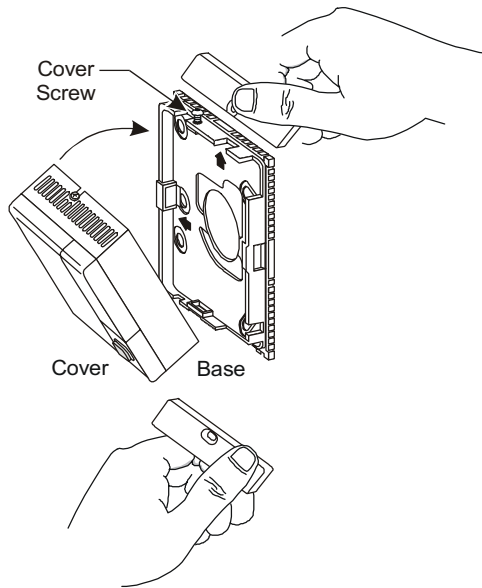

Figure 3: Removing the Breakaway Tabs
1. Bend the top and bottom edges of the mounting base at the perforations until they break off. (See Figure 3.)